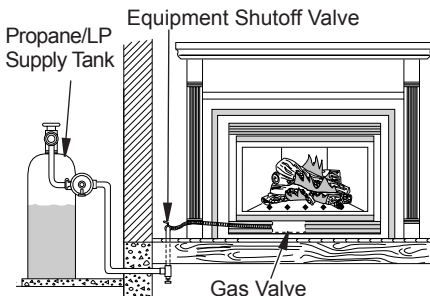
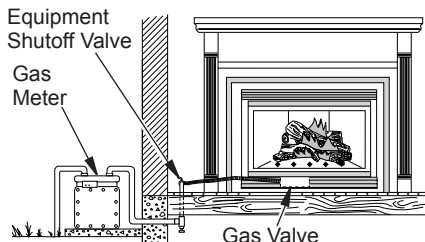

Figure 34 - Checking Gas Joints for Propane/LP Gas Fireplace
Figure 35 - Checking Gas Joints for Natural Gas Fireplace
3. Check all joints from propane/LP supply tank or gas meter to equipment shutoff valve (see Figure 34 or Figure 35). Apply noncorrosive leak detection fluid to all joints. Bubbles forming show a leak. Correct all leaks at once.
4. Check all joints from equipment shutoff valve to gas valve (see Figure 34 or Figure 35). Apply noncorrosive leak detection fluid to all joints. Bubbles forming show a leak. Correct all leaks at once.